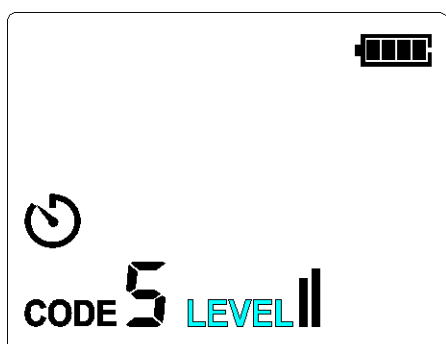

Figure 6.1.2b LEVEL Increasing/Decreasing
- When the LEVEL symbol flashes, short press the Up/Down button to set the level to **|||**, **||** or **I**. The default level is **|||**. As shown in Figure 6.1.2b